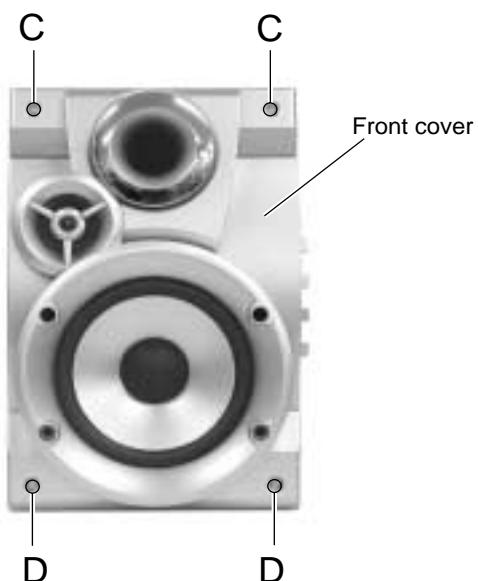

Fig.3
■ Removing the front cover (See Fig.3 and 4)